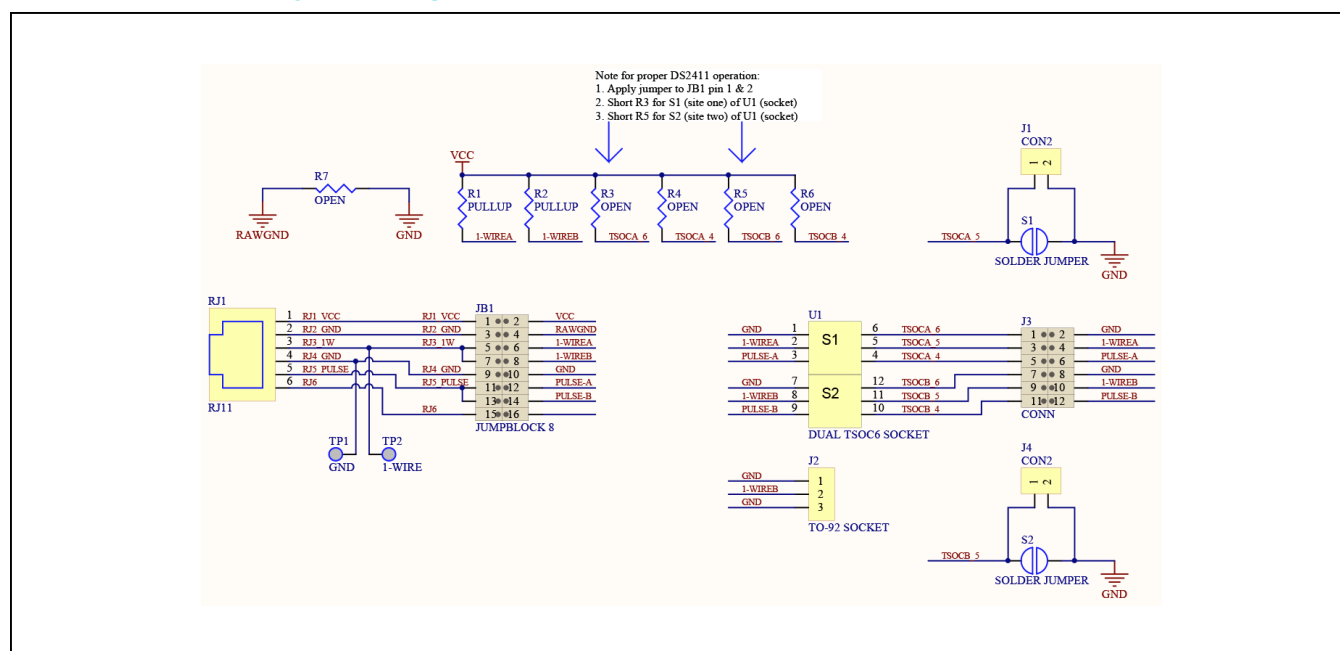

Figure 9. DS9120P+ Socket Board Schematic
- b) Note that when evaluating a DS2413P device, jumpers J1 and J4 are to be populated. For all other 1-Wire slave devices, do not populate J1 or J4 with a jumper. When using the DS2413P in socket S1, the user can populate R3 and R4 with 10k $\Omega$  pullups; otherwise, these need to be added externally. PIOA can be observed on J3:1 and PIOB can be observed on J3:5. See Figure 9 for resistor and pin location.